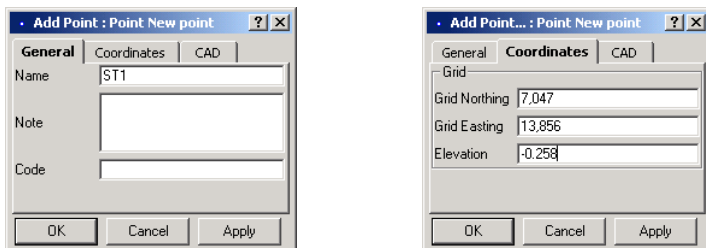

Figure B-3. Add Point – Enter Name and Coordinates
2. Enter the point's *Name* and *Coordinates*, and click **Ok** (Figure B-3).